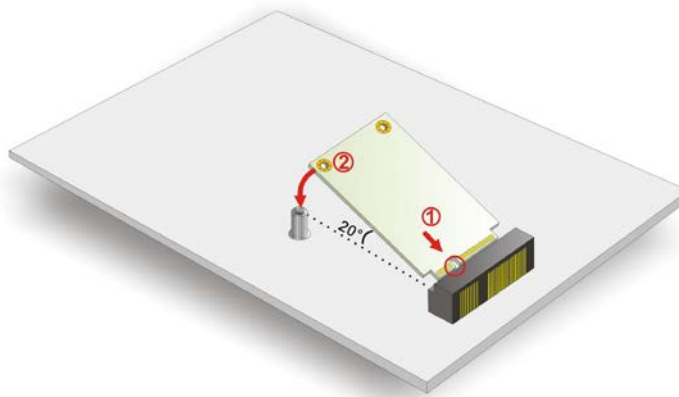

Figure 3-9: Inserting the PCIe Mini Card into the Socket
Step 3: Insert into the socket at an angle. Line up the notch on the card with the notch on the connector. Slide the PCIe Mini card into the socket at an angle of about 20° (Figure 3-9).